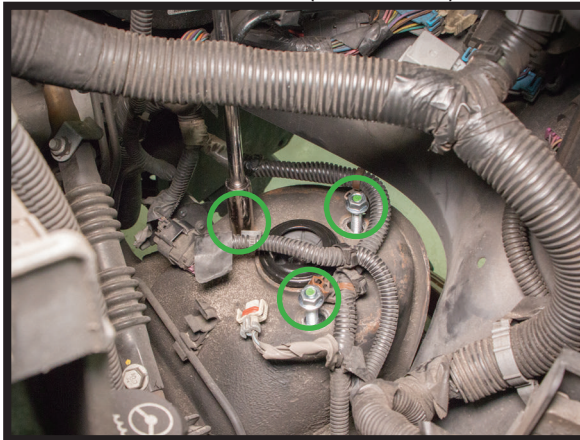

FIGURE 19
6. INSTALL THE SUPPLIED TOP NUTS AND TIGHTEN. (FIGURE 19)